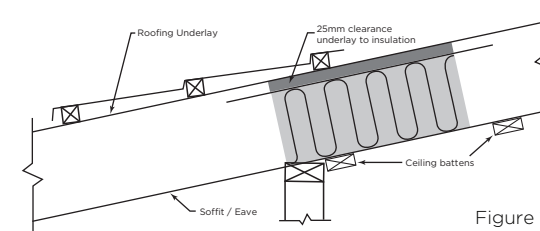

Figure 1.
1. The product should not be in contact with the roof-underlay or roof cladding. If the insulation section is going to touch the roof cladding or underlay, use a thinner insulation to maintain a minimum of 25mm clearance (see figure 1). Make sure the product is firmly placed on the ceiling battens without any gaps.